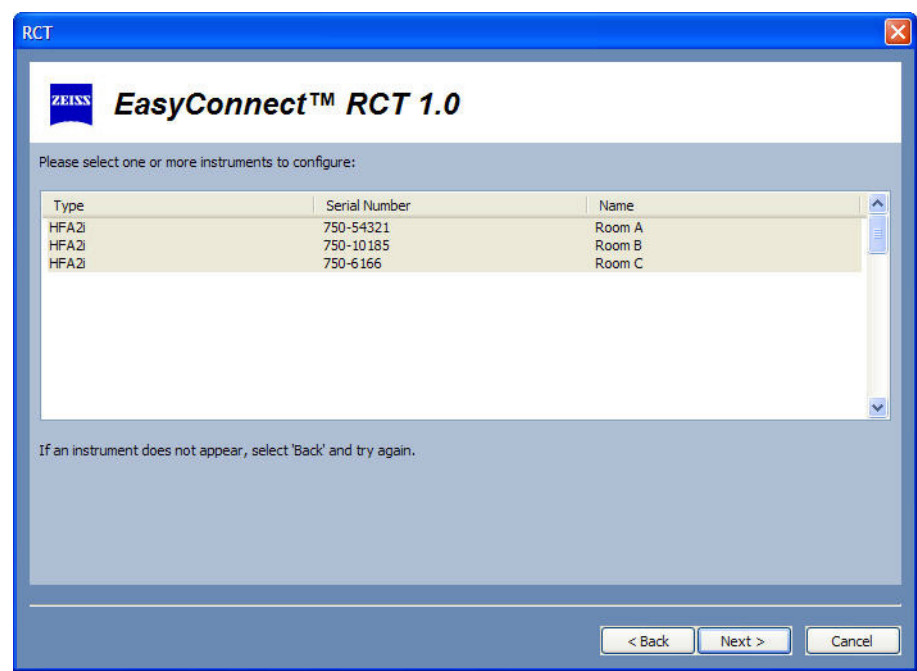

Figure G.26 Select Networked HFA Instruments to Configure
- 4 A list of all networked HFA II-*i* instruments will be displayed (Figure G.26). All instruments are selected by default. Select the instruments you want to configure and then select NEXT to continue. CTRL-CLICK to select or deselect multiple instruments.